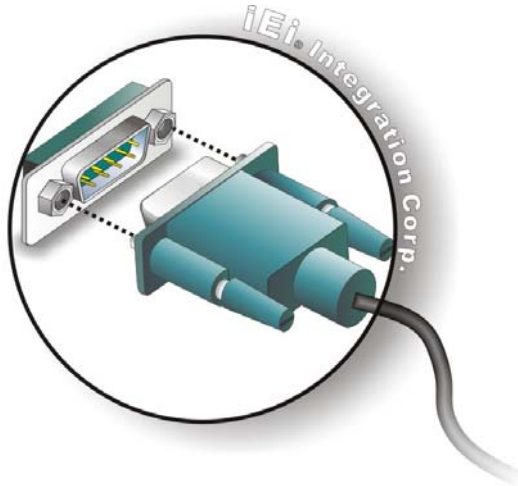

Figure 4-4: Serial Device Connector
- Step 1: Insert the serial connector.** Insert the DB-9 connector of a serial device into the DB-9 connector on the external peripheral interface. See Figure 4-4.